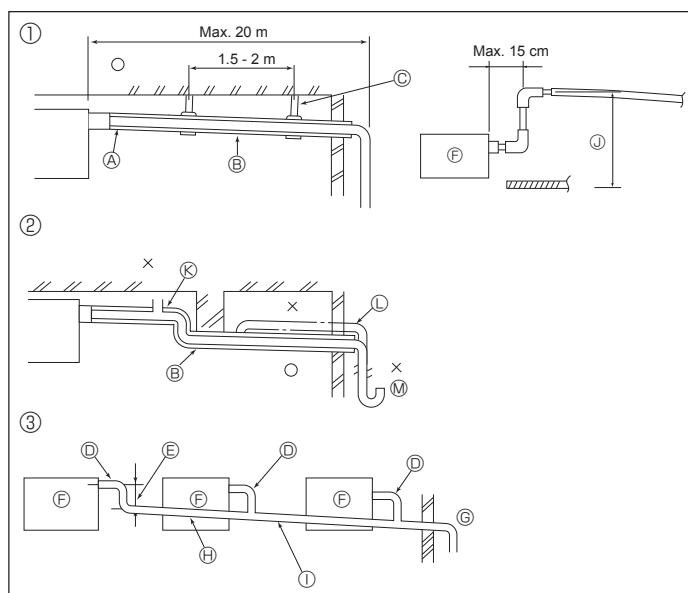

Fig. 5-1
5.1. Drainage piping work (Fig. 5-1)
① Correct piping
② Wrong piping
③ Grouped piping
④ Insulation (9 mm or more)